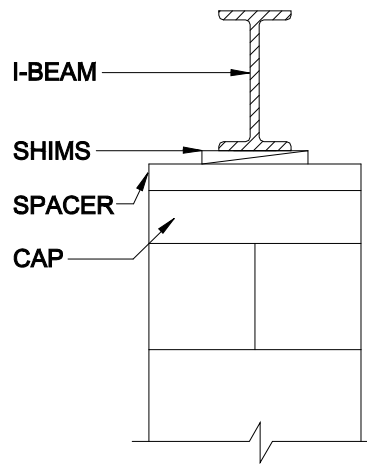

Figure 19. Correct shim placement
4. **Install shims.** Use shims to level the home and fill any gaps between the base of the I-beam and the top of the pier cap. When required, always use shims in pairs (**Figure 19**). Drive them in tightly so they do not occupy more than one inch of vertical space. When the space to be shimmed is greater than one inch and less than the minimum thickness of available caps or concrete blocks, use hardwood dimensional lumber (two inches maximum thickness) or 4" thick concrete block. For split caps, install shims and dimensional lumber/blocks over each individual cap. Two cap blocks may be used as the cap on double block piers provided the joint between the cap blocks is perpendicular to the joint between the open cell concrete blocks and is also perpendicular to the I-beam supported by the pier.